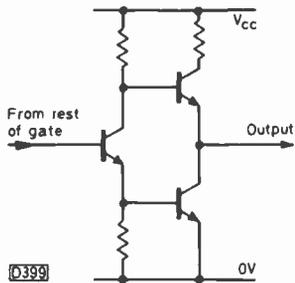

Fig. 35 (left): Totem-pole output circuit.
**Totem-pole output:** A design of gate output with transistors to pull to both the 0 and 1 states. This gives excellent capacitive driving characteristics. See Fig. 35.